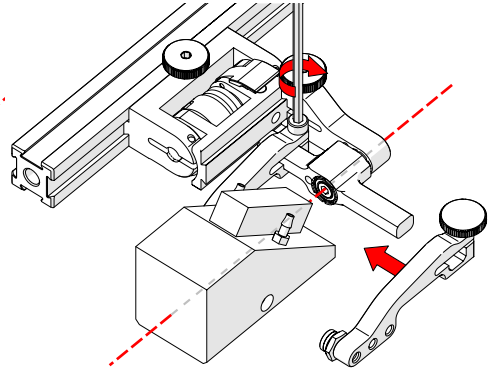

Fig. 156 - Place wedge
7. Position the wedge on the inner probe holder arm (Fig. 156).